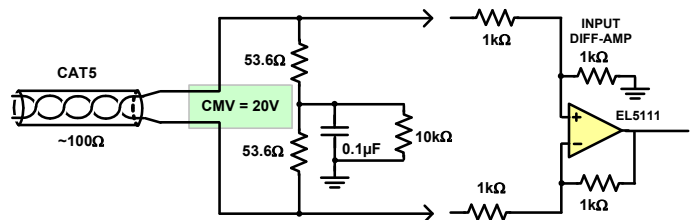
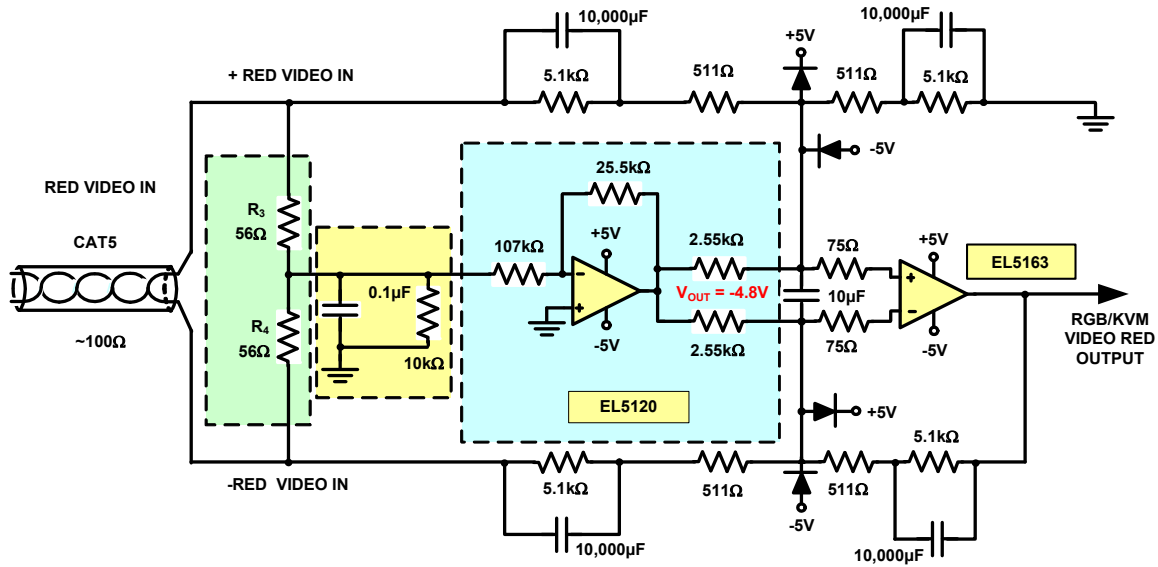

FIGURE 4. $\pm 6V$ CMV CIRCUIT
FIGURE 10. RED OF RGB/KVM ACTIVE CMV CANCELATION
- 2. NTSC Video Resistor Diff-Amp with $\pm 6V$ to $\pm 20V$ CMV** - The second circuit, Figure 4, is based on a CMOS amp, EL5111, using feedback resistors and input series resistors to form the resistor diff-amp. This circuit will increase a typical diff-amp CMV to $\pm 6V$ CMV.
Note: (Figure 4) NTSC/PAL - Why 53.6 Ω vs 50 Ω ? To insure Input Impedance is maintained at 100 Ω . The diff-amp 1k Ω input and feedback resistors were used for low noise and stable amp operation, yet the input resistors appear as a 1k Ω load to the cable. To maintain 50 Ω load to the Cat 5 cable, we change the cable input series termination to 53.6 Ω and the overall parallel input impedance value is 100 Ω at high frequency.
Why the 5.1k series resistor (Figure 10, R₁ and R₂)? The RGB high CMV amp needs higher input impedance at 50Hz to 60Hz to prevent excess CMV current load. The peak CMV current is now 3.3mA per each input line for a total of 6.6mA of CMV current.
Note: (Figure 10, R_3 and R_4) RGB/KVM - Why 56Ω vs 50Ω? To insure Input Impedance is maintained at 50Ω. For the same reason as in Figure 4, we change the cable input series termination to 56Ω and the overall parallel input impedance value is 50Ω at high frequencies.